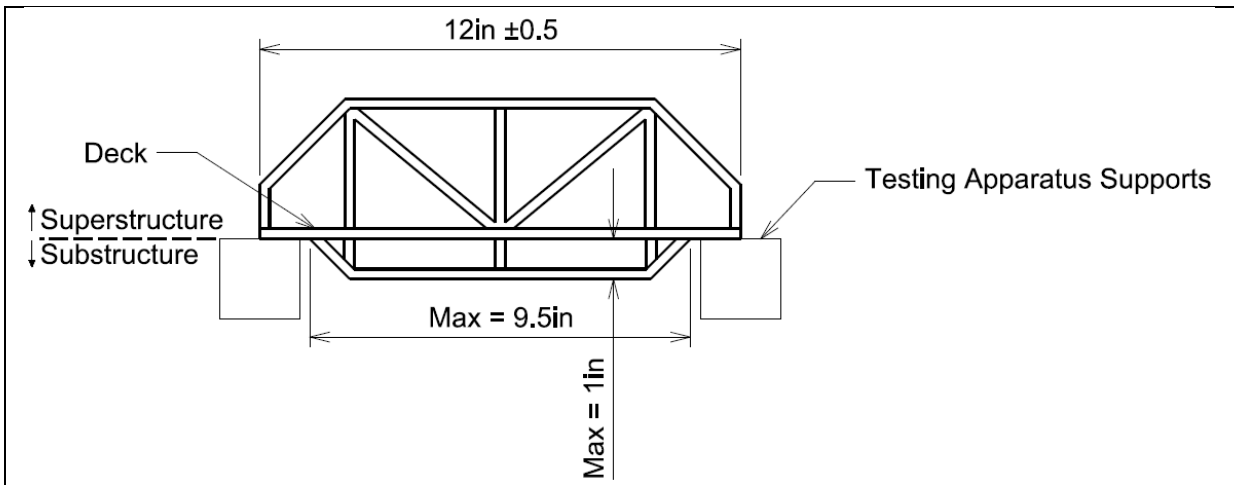
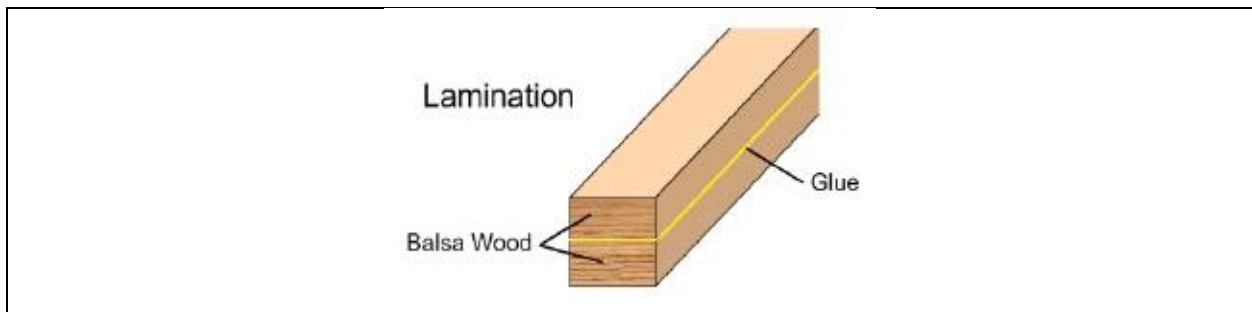

Figure 1. Bridge Dimensions
Figure 2. Lamination of Balsa Wood Members is Not Permitted
2. The required dimensions of the bridge are shown in Figure 1. Note that the portion of the bridge that is above the testing apparatus supports is referred to as the superstructure and the portion below the testing apparatus supports is referred to as the substructure. Bridges are not required to have a substructure.
3. The bridge shall only touch the top of the supports as shown in Figure 1.
5. The bridge deck must incorporate an opening at mid-span to allow a 3/4-inch diameter testing rod to pass through and attach to the wood block (see item 4 above). The rod must be able to pass through the full height of the bridge.
6. Lamination (gluing two pieces of wood along their longitudinal length to increase strength) is not permitted (shown in Figure 2). However, joints may be thicker to accommodate joining wood pieces.